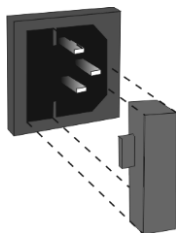

Figure 9. Fuse holder
9.3. Fuse replacement. Disconnect the power cable from the mains. Disconnect the power cable from the socket on the rear of the unit. Open the fuse holder, located near the socket (figure 9). Check and replace with a correct fuse, if necessary, see table below: